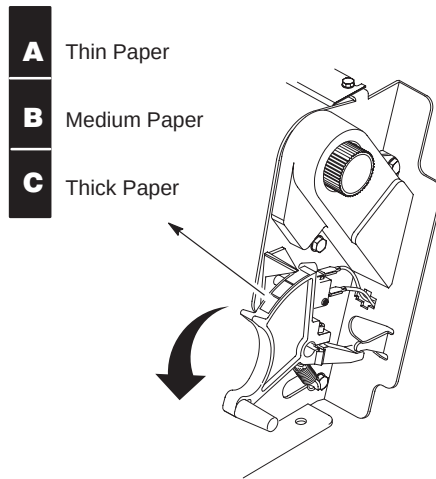

Figure 3-1. Forms Thickness Lever
7. Lower the forms thickness lever. Set it to match the paper thickness you are using. (See Figure 3-1.)